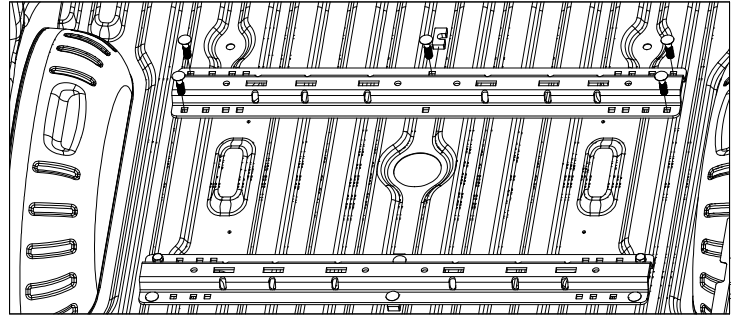

Figure E3: View looking into truck bed from rear of truck.
3. **Install forward mounting rail.** Re-position the forward mounting rail over the drilled 9/16" holes in the bed. Install a 1/2" carriage bolt through the mounting rail into each of the five drilled holes, as shown in Figure E3. Place a U-shaped spacer under the center carriage bolt.